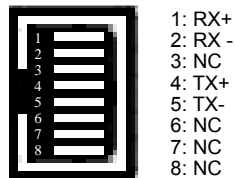

Figure 2-7 E1 Interface
- ① If you need to construct an E1 line by yourself, please follow Figure 2-7 E1 Interface.